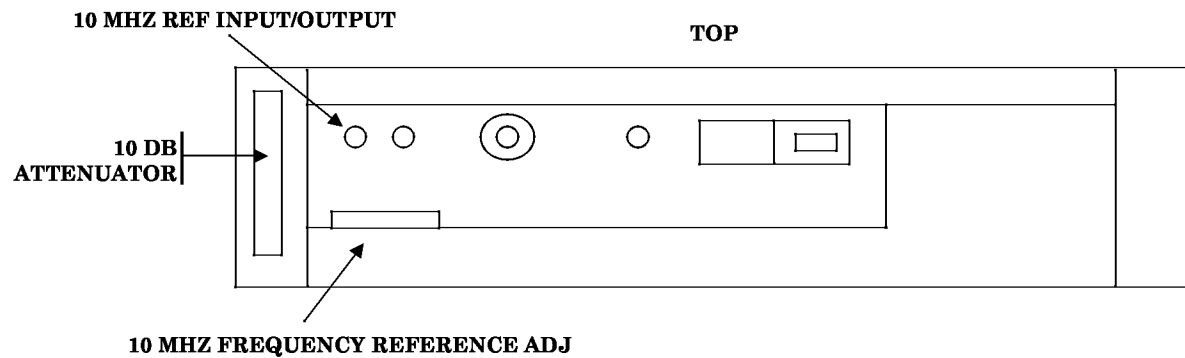

Figure 1. Rear panel.
(1) Connect microwave frequency counter **INPUT 2** ($1M\Omega$) to TI 10 MHz REF INPUT/OUTPUT (fig. 1), located on rear panel, using TI 10 dB ATTENUATOR (fig. 1.).
(2) The indication on the microwave frequency counter will be 10 MHz ± 1 PPM; if not, perform **b** below.
b. Adjustments. After a 2-hour warm up, adjust TI 10 MHZ FREQUENCY REFERENCE ADJ (fig. 1.) for ± 0.3 ppm. Wait 24 hours and re-check TI is within ± 0.3 ppm.